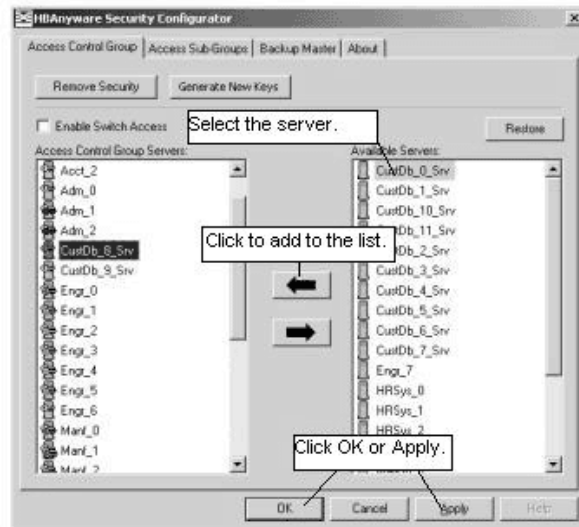

Figure 41: Access Control Group tab with ACG Servers
1. From the MSC, start the HBAAnyware Security Configurator. The Access Control Group tab appears (see Figure 41 on page 86).